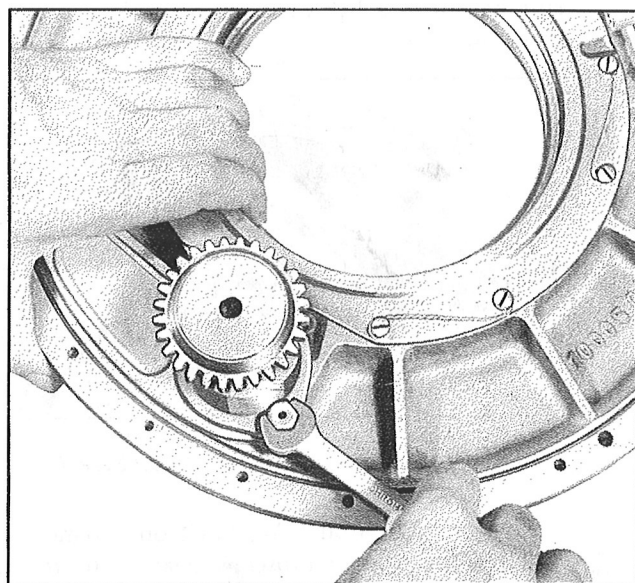

Figure 136—Removal of the Oil Pump
Step 16.—Remove the  $\frac{1}{4}$ " x 20 oil pump attaching capscrews and washers, as shown in Figure 136.